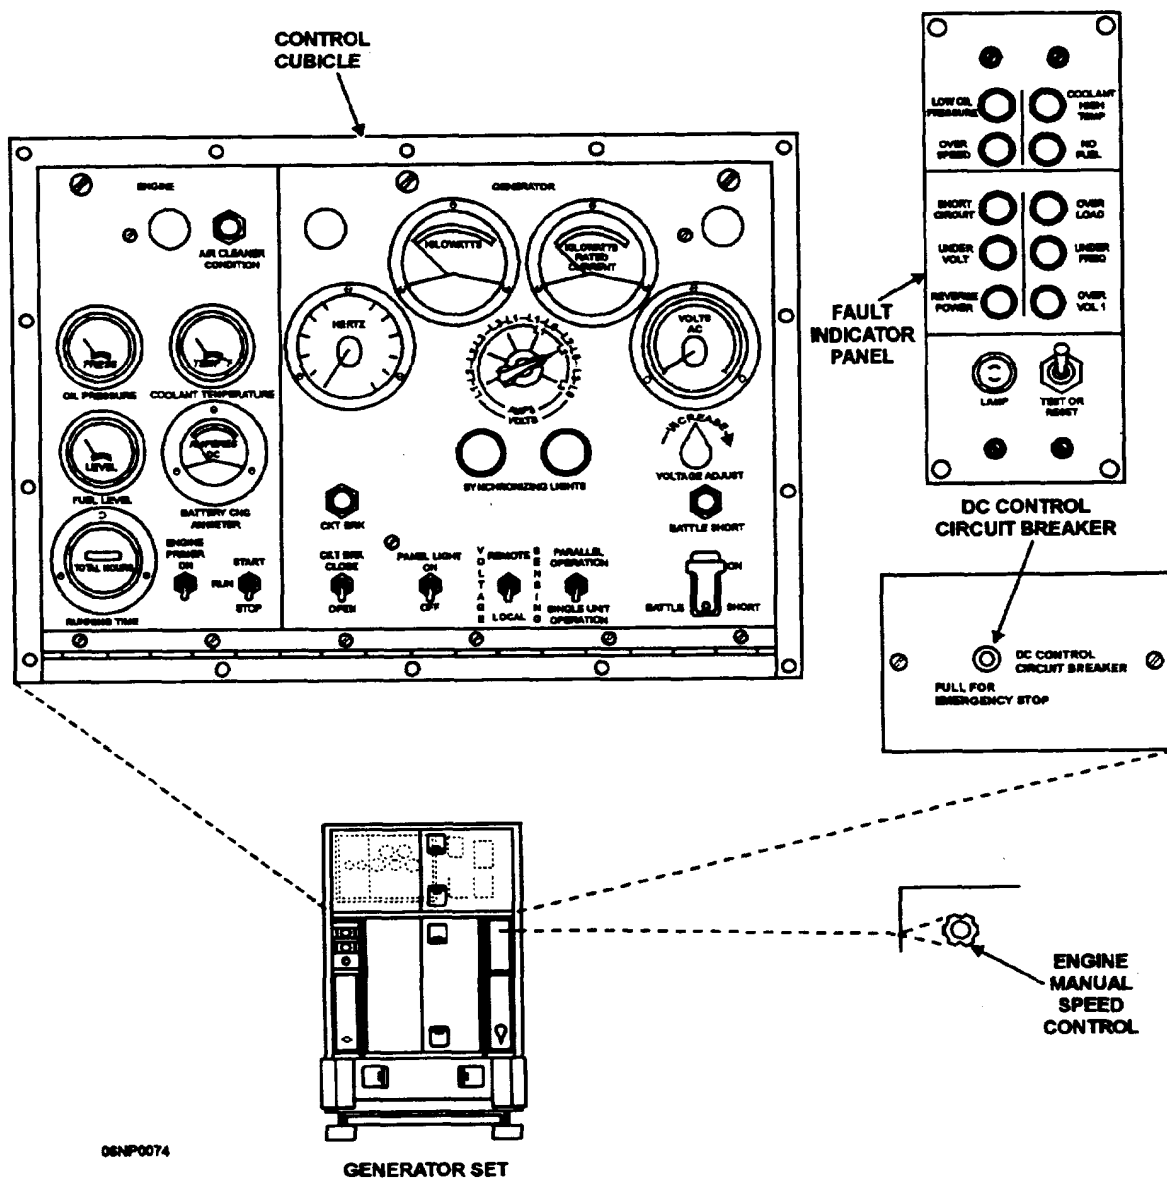
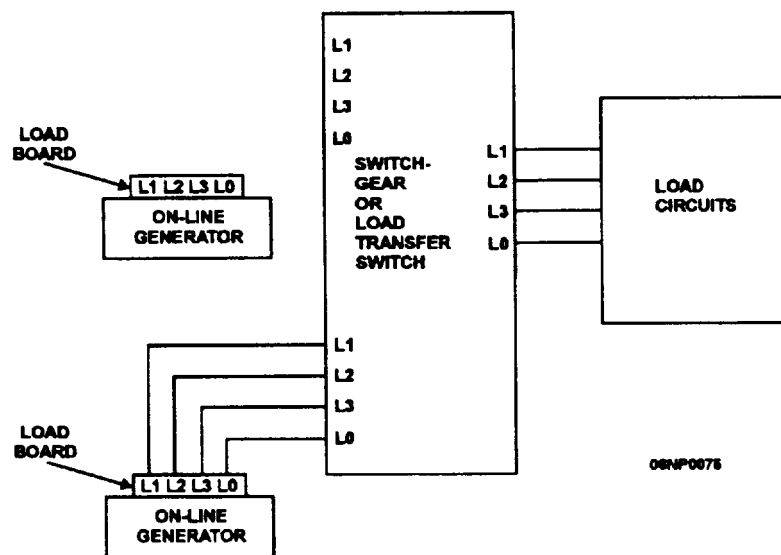

Figure 3-19.—Control cubicle, controls, and indicators.
Figure 3-20.—Parallel operation connection diagram.
NOTE: Refer to figure 3-19 for the CONTROL CUBICLE, FAULT INDICATOR PANEL, DC CONTROL CIRCUIT BREAKER, and ENGINE MANUAL SPEED CONTROL. Notice that the control
1. Ensure that the PARALLEL OPERATION-SINGLE UNIT OPERATION switch (fig. 3-19) is set to SINGLE UNIT OPERATION.
NOTE: These procedures assume that one generator set is on line (operating and connected to the distribution feeder lines through the switchgear). The set that is to be paralleled is designated the incoming set (fig. 3-20).
SYNCHRONIZING LIGHTS (fig. 3-19) will bring the phase and frequency into exact agreement. As the phase and frequency approach the same value, the SYNCHRONIZING LIGHTS will gradually turn on and off. When the blinking slows to a rate of once per second or slower, close the main circuit breaker of the incoming set while the SYNCHRONIZING LIGHTS are at a point of being dark. The phase sequence relates to the order in which the generator windings are connected. If the phase sequence is not correct, the SYNCHRONIZING LIGHTS will not blink on and off together. When the incoming set is first connected to the load through the appropriate switchgear (fig. 3-20), you should observe one of four occurrences. When the phase sequence, voltage, frequency, phase, and engine performance are the same, the changeover will be smooth with only the slightest hesitation in engine speed; if each output is slightly out of phase, one of the engines will shudder at the point of changeover; if the phase sequence or voltage levels are incorrect, the reverse power relay will trip on one of the generator sets and open its main circuit breaker contactors; if the incoming generator set loses speed significantly or almost stalls, the incoming engine may be defective.
Refer to figures 3-19 and 3-20 to set up the generator sets for parallel operation.
1. Connect the incoming set, as shown in figure 3-20.
Refer to figure 3-19 while following the procedure for removing a generator set from parallel operation.
Refer to figure 3-19 as you study this section.